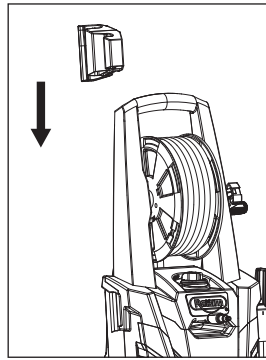

Figure 3 - Attach storage hook
1. Attach the storage hook (See Figure 3).